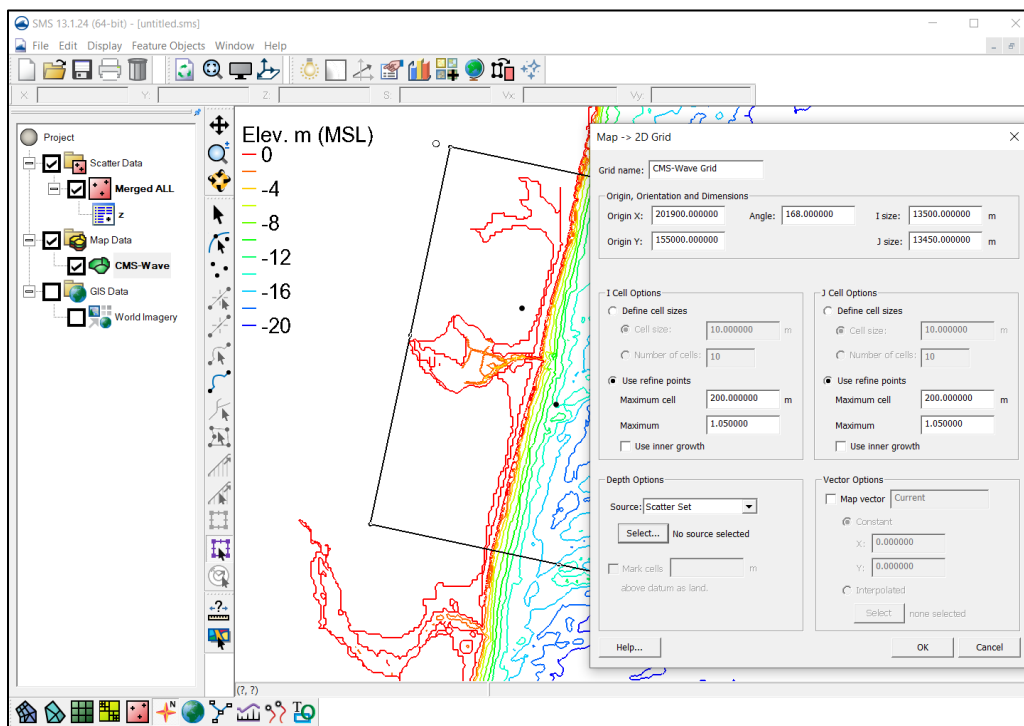

Figure 10. Display Map→2D dialog.
- Select *Feature Objects* | **Map**→**2D Grid** to bring up the *Map* → *2D Grid* dialog (Figure 10).
- Verify values in the *Origin, Orientation and Dimensions* section. In the *Depth Options* section, select “Scatter Set” (the default is “Constant” with Depth: 0.0) from the *Source* drop-down (Figure 10).